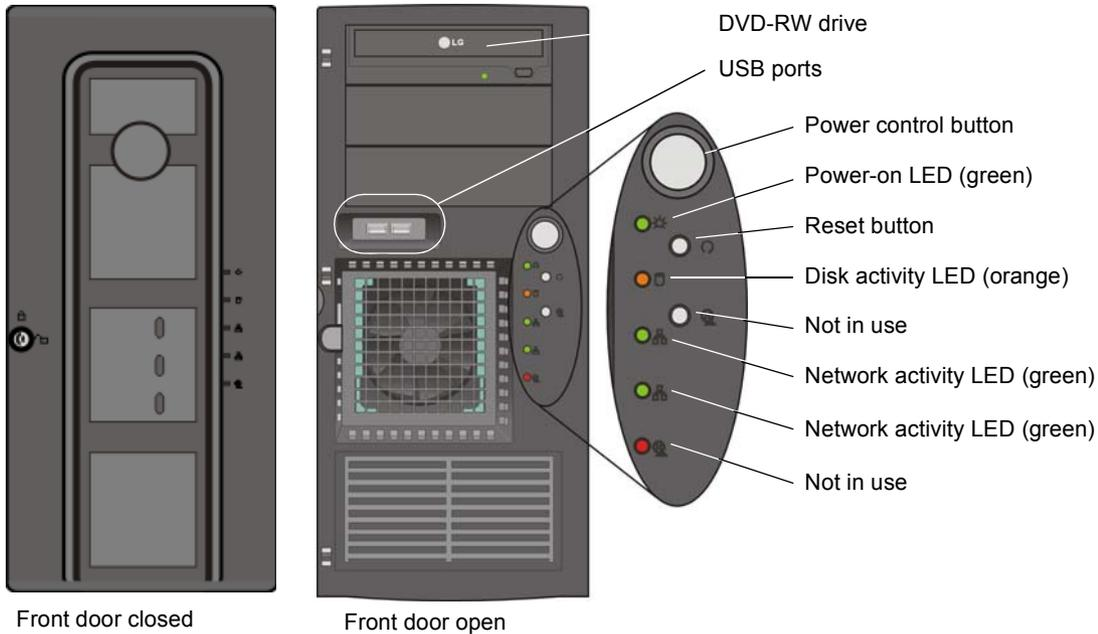

Figure 4: Front door controls and indicators
Figure 4 shows the external LEDs and controls of your Color Controller C-80.
3. Wait 20 seconds before pressing the power control button on the Color Controller C-80 (see Figure 4 on page 10). The ON/OFF LED on the front panel illuminates a steady green.